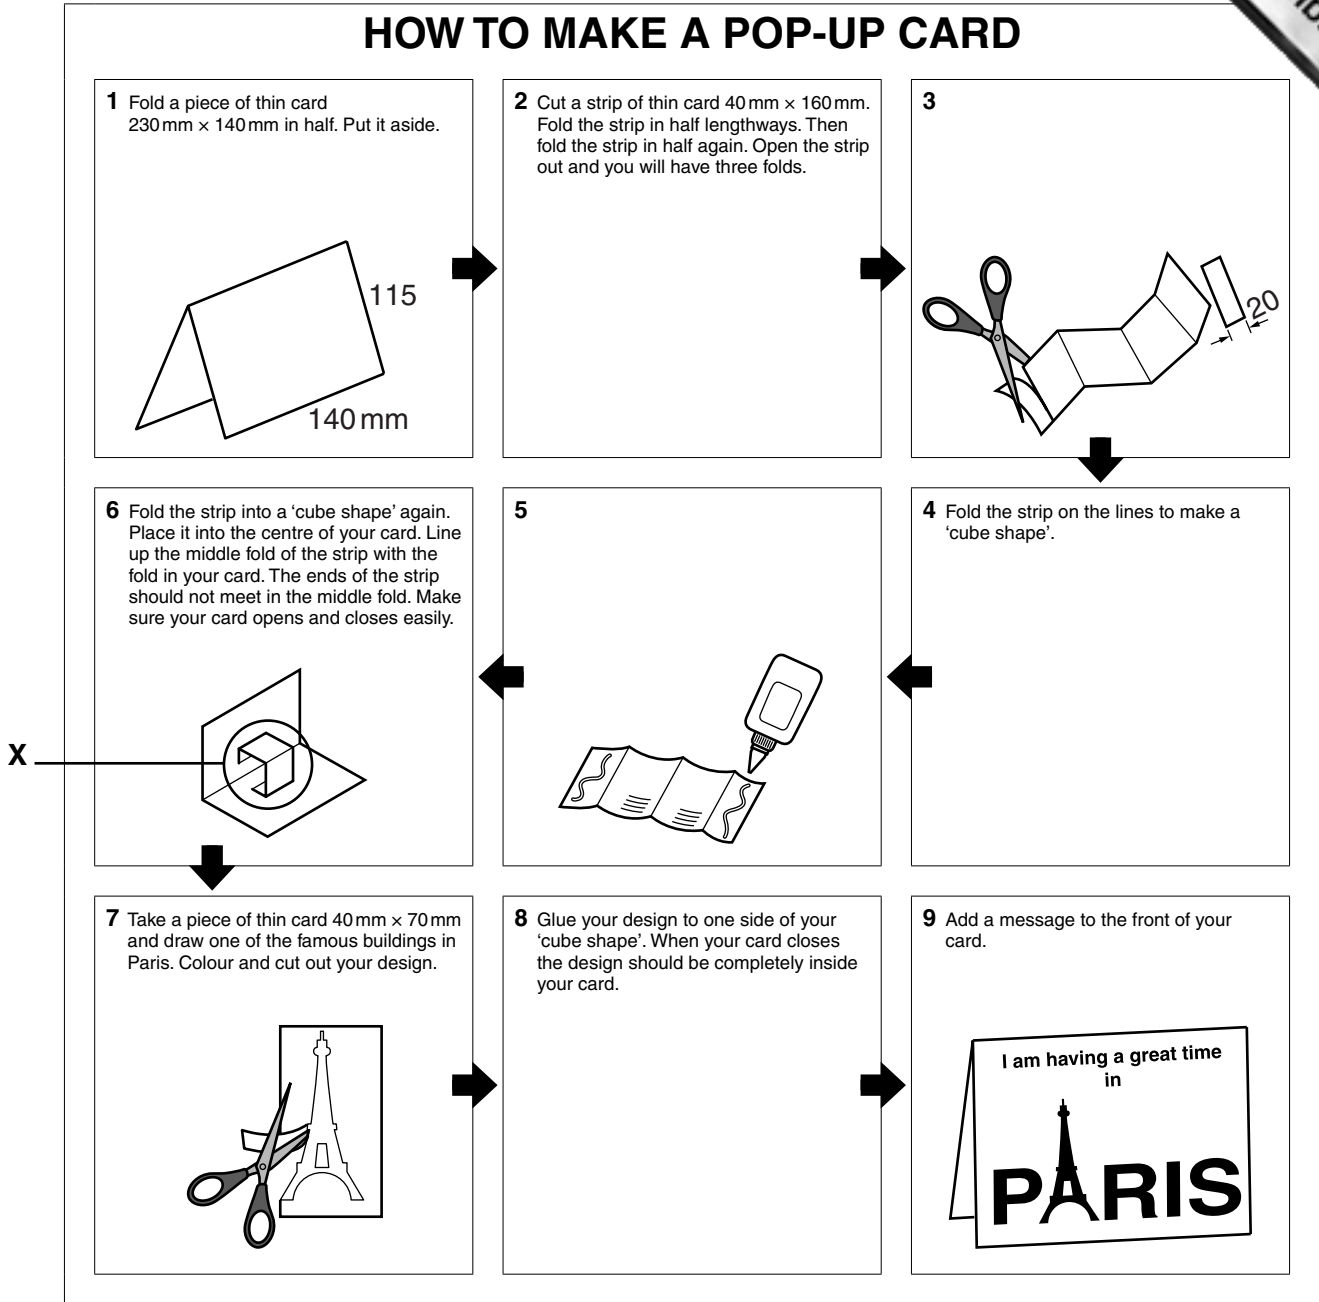

Fig. 5
5 Fig. 5 shows an incomplete design for a child's activity sheet on how to make a pop-up card.
- (d) The instructions shown in Fig. 5 use a combination of text and diagrams. Discuss the benefits of having instructions in this form rather than using just text or just diagrams.